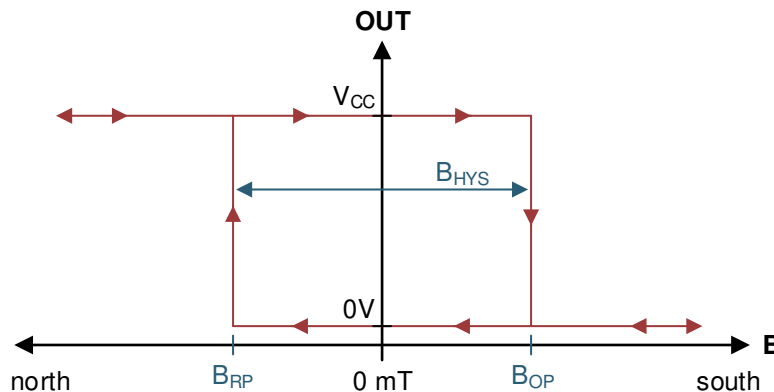

Figure 3-1. Hall Latch Output
3. Rotate the magnet to the opposite orientation. If the threshold is met, the device should have the opposing reaction than it did in the previous step. A South field over the B_{OP} will turn on the LED while a North field less than the B_{RP} threshold will turn off the LED. See Figure 3-1 for the magnetic response of a Hall-effect latch.